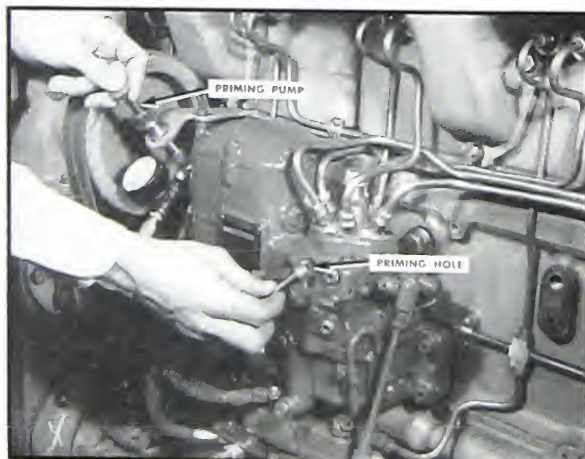

Fig. 12-37. Priming suction disc
7. Make sure priming valve is closed. Remove $\frac{1}{8}$ " socket head priming plug. Work priming pump until solid fuel comes out of priming plug hole. If fuel does not flow, it is an indication that the suction disc and plate are not indexed, in which case, it will be necessary to bar the engine slightly one way or the other. Prime the suction disc in three of its indexed positions to remove all of the air. Replace the $\frac{1}{8}$ " priming plug. (Fig. 12-37).